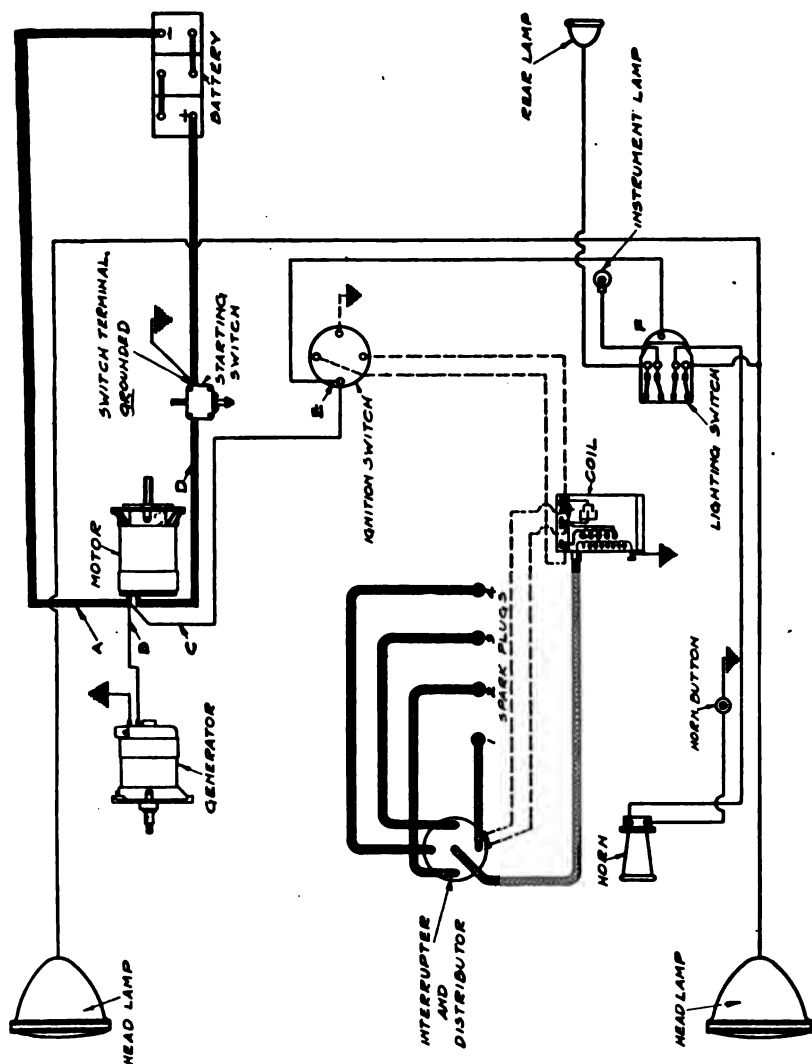

Fig. 230. Wiring Diagram for the Bijur System on the Hupmobile
*Hupp.* Fig. 230 shows the 6-volt single-wire system. This diagram is simplified by the omission of the magneto, current from the battery being supplied to a single coil and distributor system for this purpose. The generator is bolted to an extension on the right side forward of the engine and is driven by silent chain from the crankshaft. The generator is of the third-brush regulation type. The field windings are protected by a 12-ampere fuse. There is a four-way switch for lighting circuits.
**Hupp.** General instructions covering failure of generator, starter, or lamp circuits apply as already given. Many other important factors might be mentioned such as open circuit, loose connections, blown generator fuse, corroded battery terminal, and brushes not seated properly. If the starting motor is damaged so that its removal is necessary, it should be removed by disconnecting one of the battery terminals and the two small wires *B* and *C* as shown on the diagram, Fig. 230. Next remove heavy cables *A* and *D* from the starting motor. The holding nuts on the motor can then be loosened to permit its removal. In replacing a starting motor, the pinion riding on the square shaft of the motor should be tested to see that it has a free sliding fit on the shaft. Do not use a file but see that all surfaces are perfectly clean and well oiled. The pinion must be guided over the shaft before the motor is pushed into place. Connect the new motor in accordance with the wiring diagram. Do not make storage-battery connections until all other connections have been made and while repairs are being carried out battery terminals should be protected.